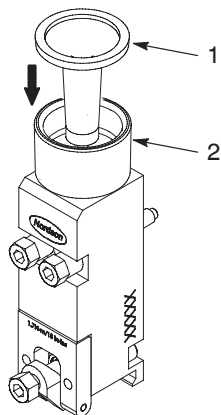

Figure 9-10 Using the base tool to push the needle-and-piston assembly into the module body
5. See Figure 9-10. Use the base tool to push the needle-and-piston assembly through the seal and into the bore of the module body until it seats.